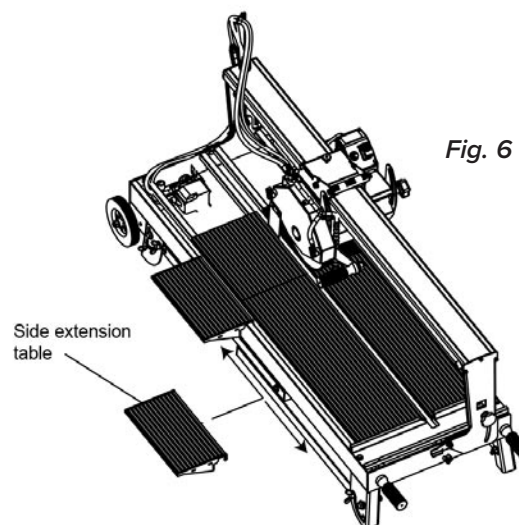

Fig. 6
1. Install the side extension table as shown in figure 6.
3. Rotate the knobs (2) underneath the extension table clockwise until its upper surface is level with the main table.